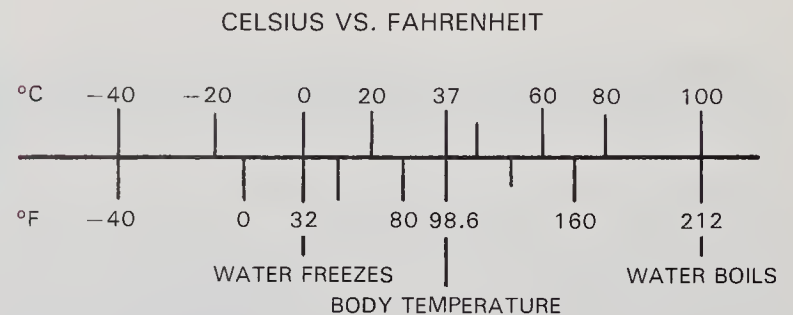

Fig. 6-21. Study relationship between conventional Fahrenheit ($^{\circ}\text{F}$) and metric Celsius ($^{\circ}\text{C}$) temperature values.
Special *thermometers* or *temperature gauges* are frequently used to measure the temperature of numerous components (air conditioning output temperature, and radiator temperature for example). A temperature gauge can read in either Fahrenheit (F) or Celsius (C), Fig. 6-21. The temperature obtained with the gauge can be compared to specs. Then, if the temperature is too low or too high, you would know that a repair or adjustment is needed.